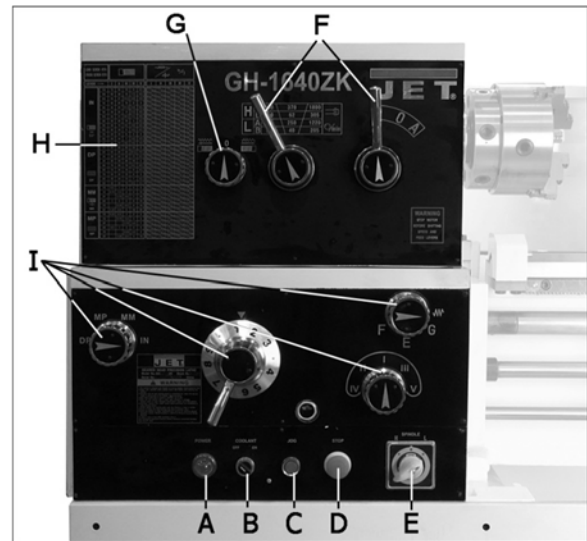

Figure 27 – Operating Selections
Twelve speeds are available by positioning the two speed levers (F, Figure 27) according to the accompanying chart on the front of the headstock.
To obtain various feed settings and thread pitches, the four levers (I, Figure 27) are used conjunctively. Position the four levers according to the Feed and Thread Chart on the front of the headstock. The chart is also shown at the back of this manual.
1. Move **feed direction knob** (G, Figure 27) to desired direction, for right-hand or left-hand threads.
2. Set **speed levers** (F, Figure 27) to desired speed. Use lowest speed possible when threading.
3. Select desired thread using **thread pitch levers** (I, Figure 27) in conjunction with the charts on the headstock. These charts are also included at the back of this manual.